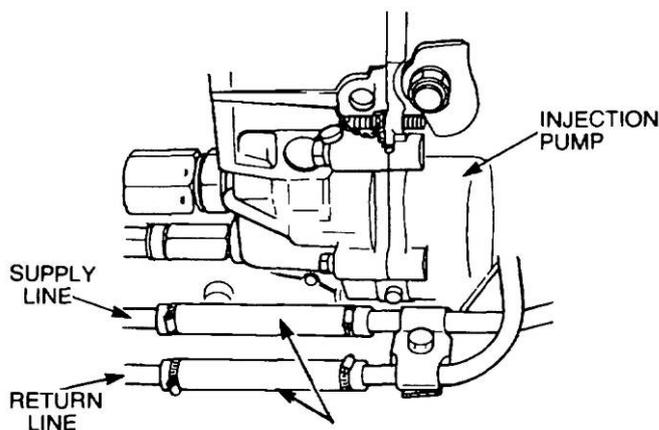

Figure 7 Removal of the Fuel Lines
- o. Disconnect the fuel supply and fuel return lines at the rubber hoses on the fuel injection pump (Figure 7). Plug all apertures with suitable plastic plugs.